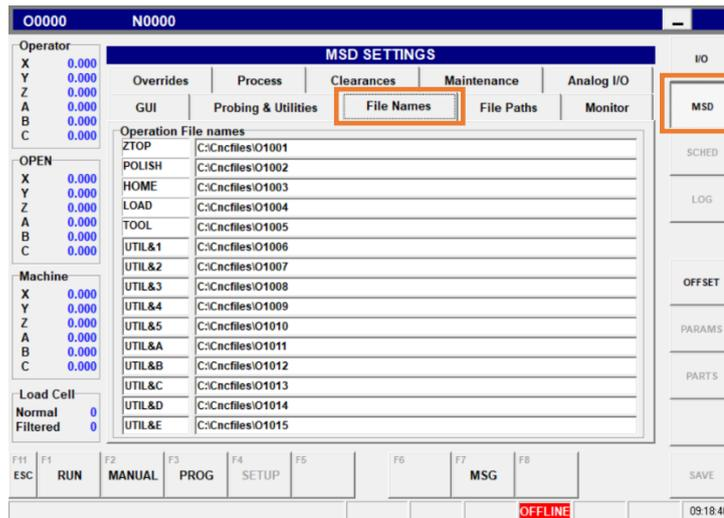

Figure 39 - Setting up a utilities program
10. Press the “MSD” button. See (Figure 39 - Setting up a utilities program).
11. Select “File Names” tab page. See (Figure 39 - Setting up a utilities program).